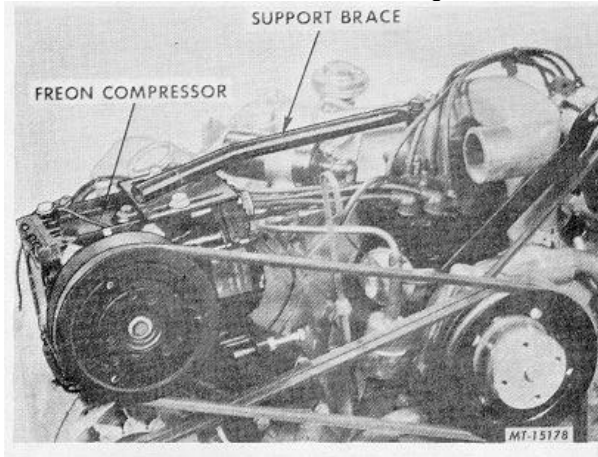

Fig. 10 Removing Freon Compressor Support Brace
- Remove freon compressor support brace capscrews and washers and remove brace, Fig. 10.